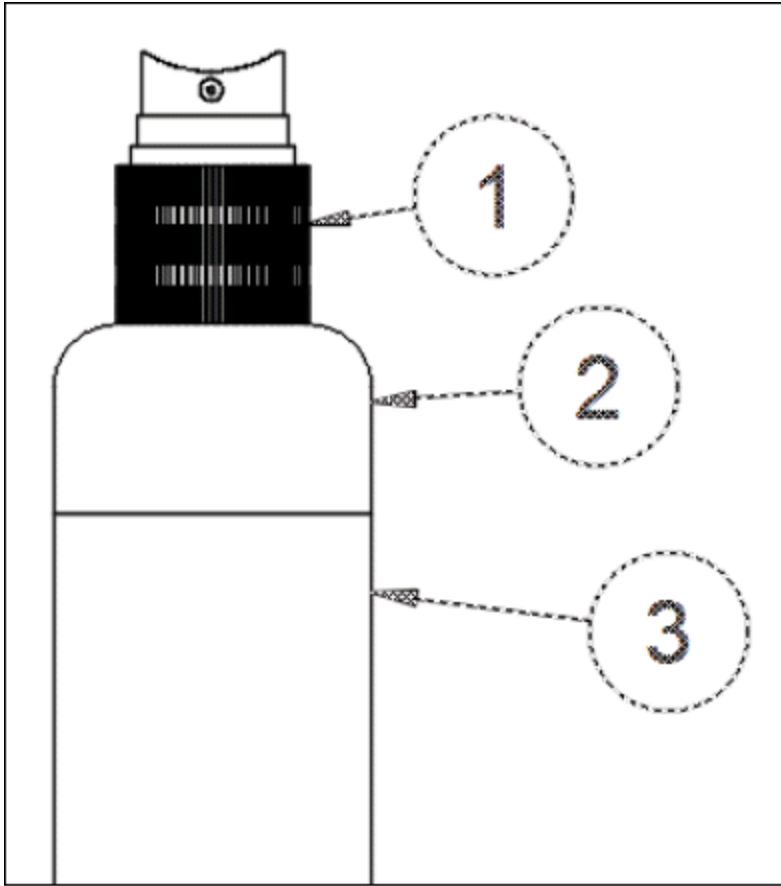

Figure-130. Selection of balloons for alignment
- Click to select all the balloons to aligned; refer to Figure-130 and press **ENTER**. You will be asked to specify starting point of line to be used for alignment of balloons.